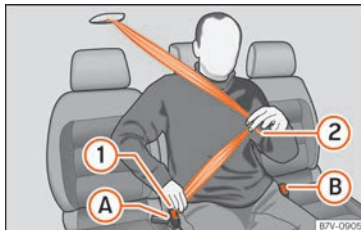

Fig. 91 Fasten the seat belt on the centre seat in the second row of seats
- Use latch plate of the belt »» Fig. 91 to pull the seat belt down. Do **not** twist the seat belt when doing so »» .
- Use the latch plate »» Fig. 91 to pull the seat belt across your lap.
- Press the red button on the buckle »» Fig. 91 . The latch plate will come out of the buckle.